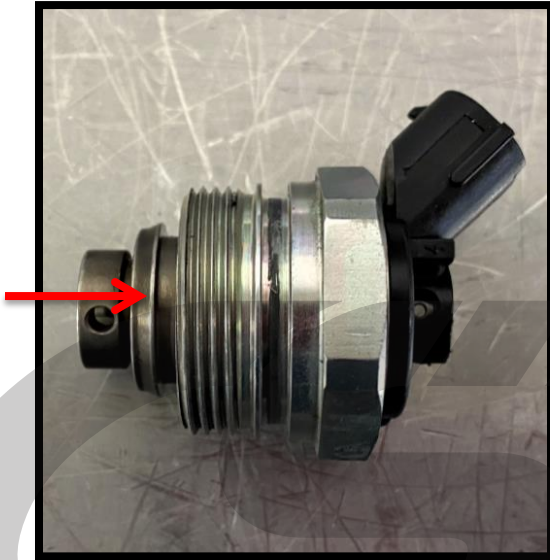

Figure 5d
- f) With the two retainers removed, push the center of the spill valve free of the outer "nut" in the direction shown with **red arrow** in **Figure 5d**.